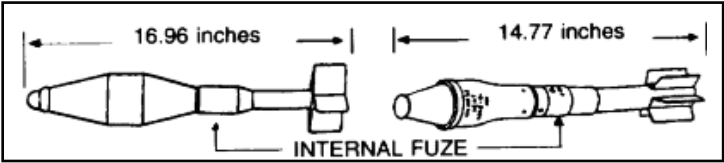

Figure 093-401-5040-8b. Rifle grenades
(3) Thrown (see figure 093-401-5040-9a and figure 093-401-5040-9b).